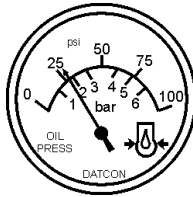

Figure 45. Oil Pressure Gauge
13. The engine oil pressure gauge (Figure 45) will indicate the oil pressure (kg/ cm2) of the engine. Under normal operating conditions the oil pressure should be approximately 25 psi.